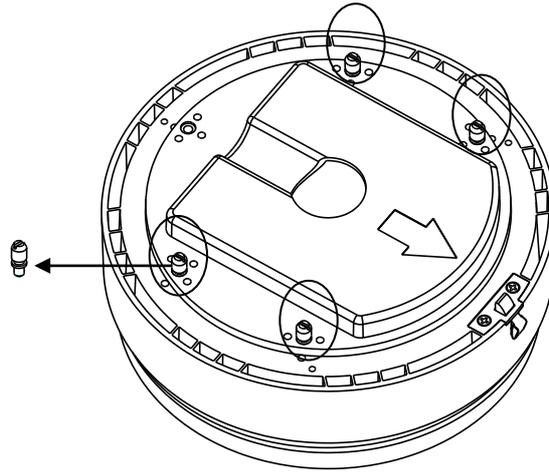

Figure 2-24 Install the bolts
3) Install 4 bolts to the screw holes as shown in Figure 2-24.